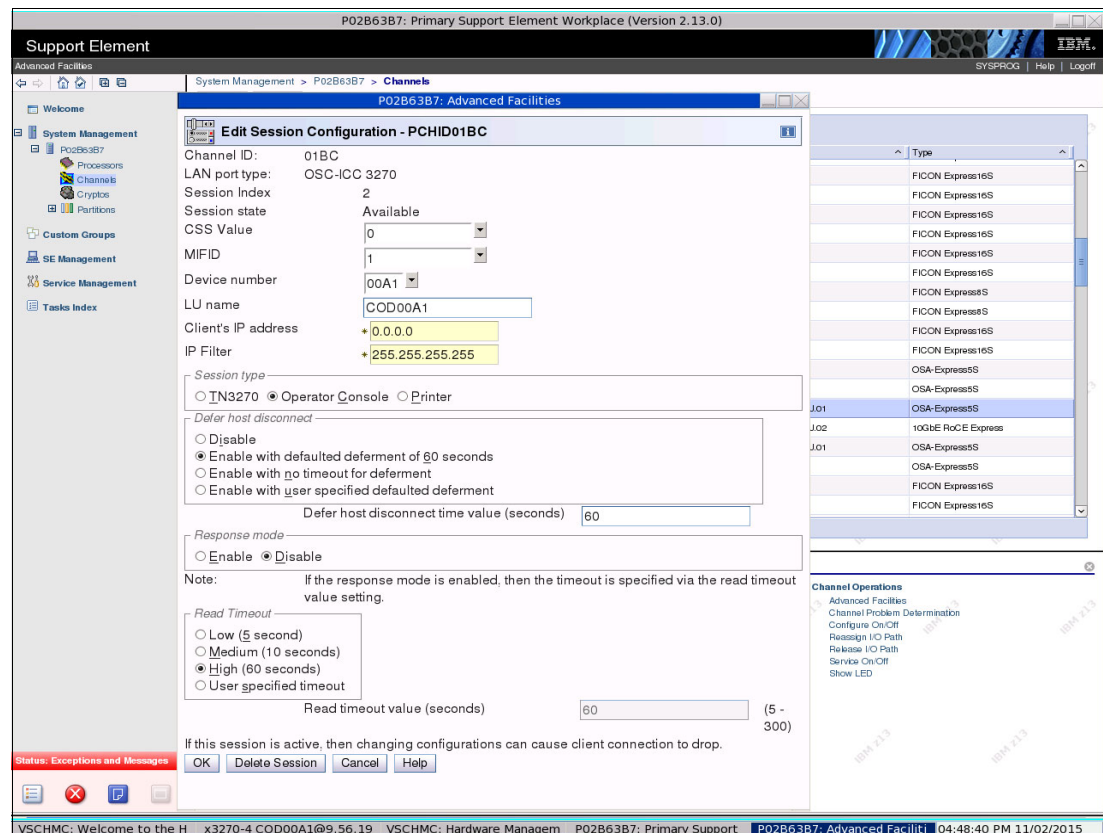

Figure 7-11 Edit Session configuration panel
2. In the Edit Sessions Configuration panel, we select the top Session Index line and click **Change**. The Edit Session Configuration panel displays, as shown in Figure 7-11.